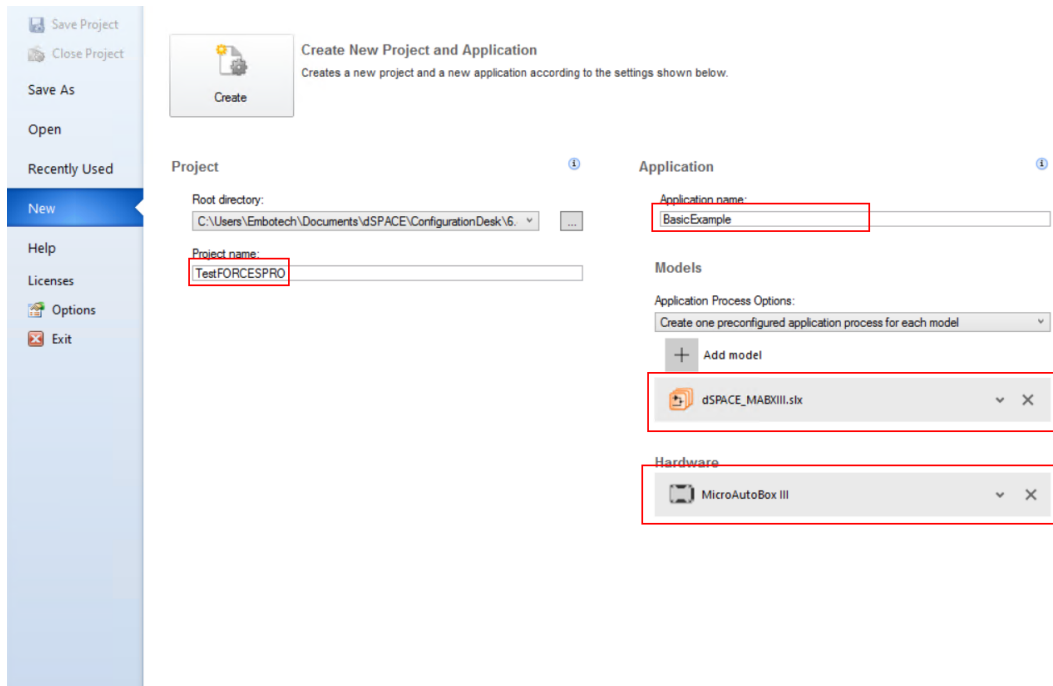

Figure 12.71: Create project and application in ConfigurationDesk.
- 15) Create a new Project and Application in ConfigurationDesk. Select directory of project, name of project and application, the model `dSPACE_MABXIII.slx` as the application process and connected MicroAutoBox III to deploy to (see Figure 12.71).